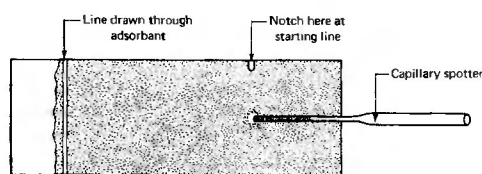

Fig. 120 Putting a spot of compound on a TLC plate.
- Take a sharp object (an old pen point, capillary tube, spatula edge, etc.) and *draw a straight line through the adsorbent*, as close to the clear glass end as possible (Fig. 120). Make sure that it runs all the way across the end of the slide and goes right down to the glass. This will keep the solvent from running up to the ragged edge of the adsorbent. It will travel only as far as the smooth line you have drawn. Measurements will be taken from **this line**.